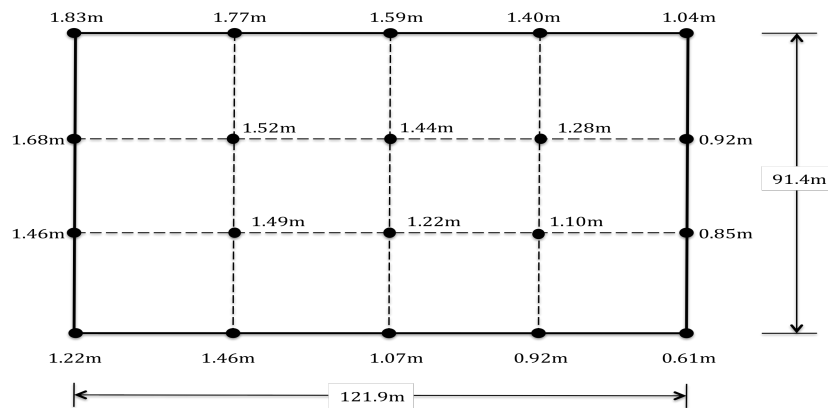

Figure 1: Large area to be excavated
a) Find the volume of excavation in loose cubic metre (LCM) for the large area shown in figure 1. The excavation has been divided into a grid for estimation purposes, showing the depth of cut at various locations. The soil type is common earth. [4]